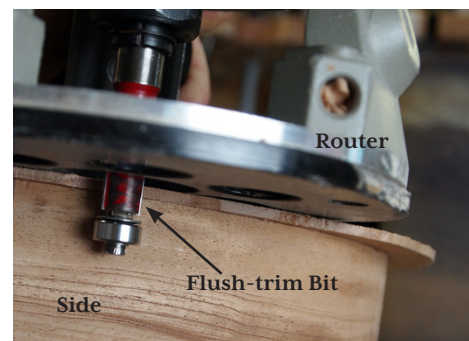

FIG. 9
- ___9. Once the soundboard is installed and the glue is dry, you can trim it flush with the frame using a router with a flush-trim bit. (fig. 9)